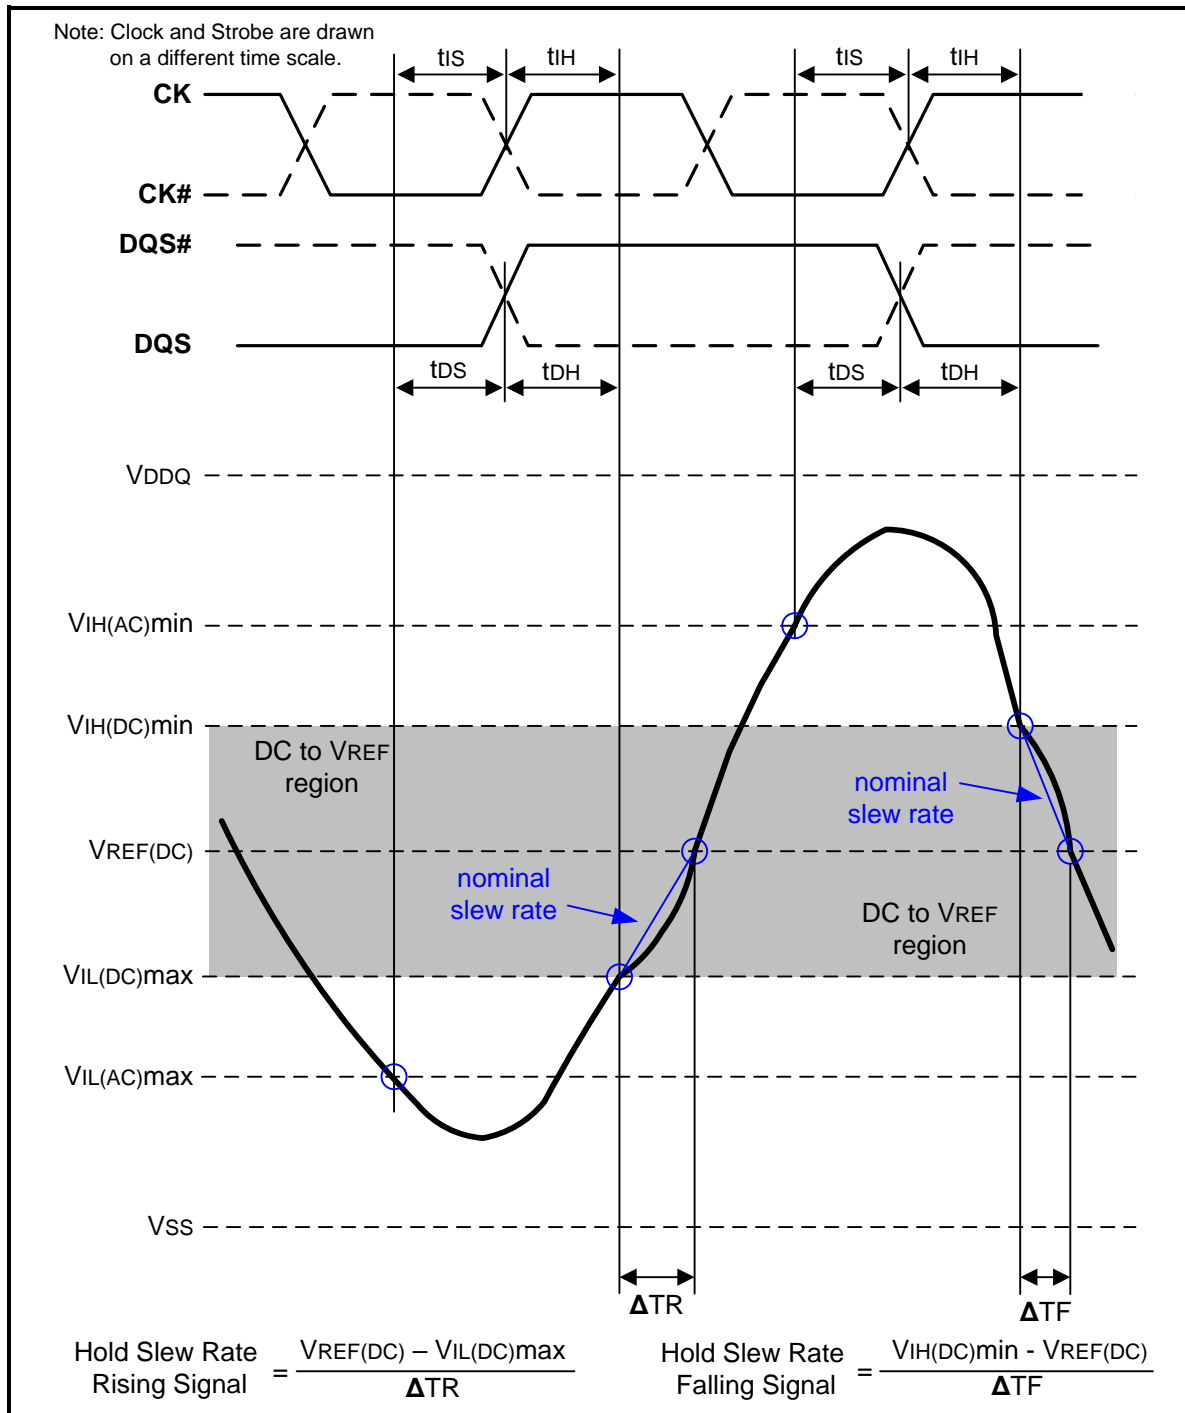
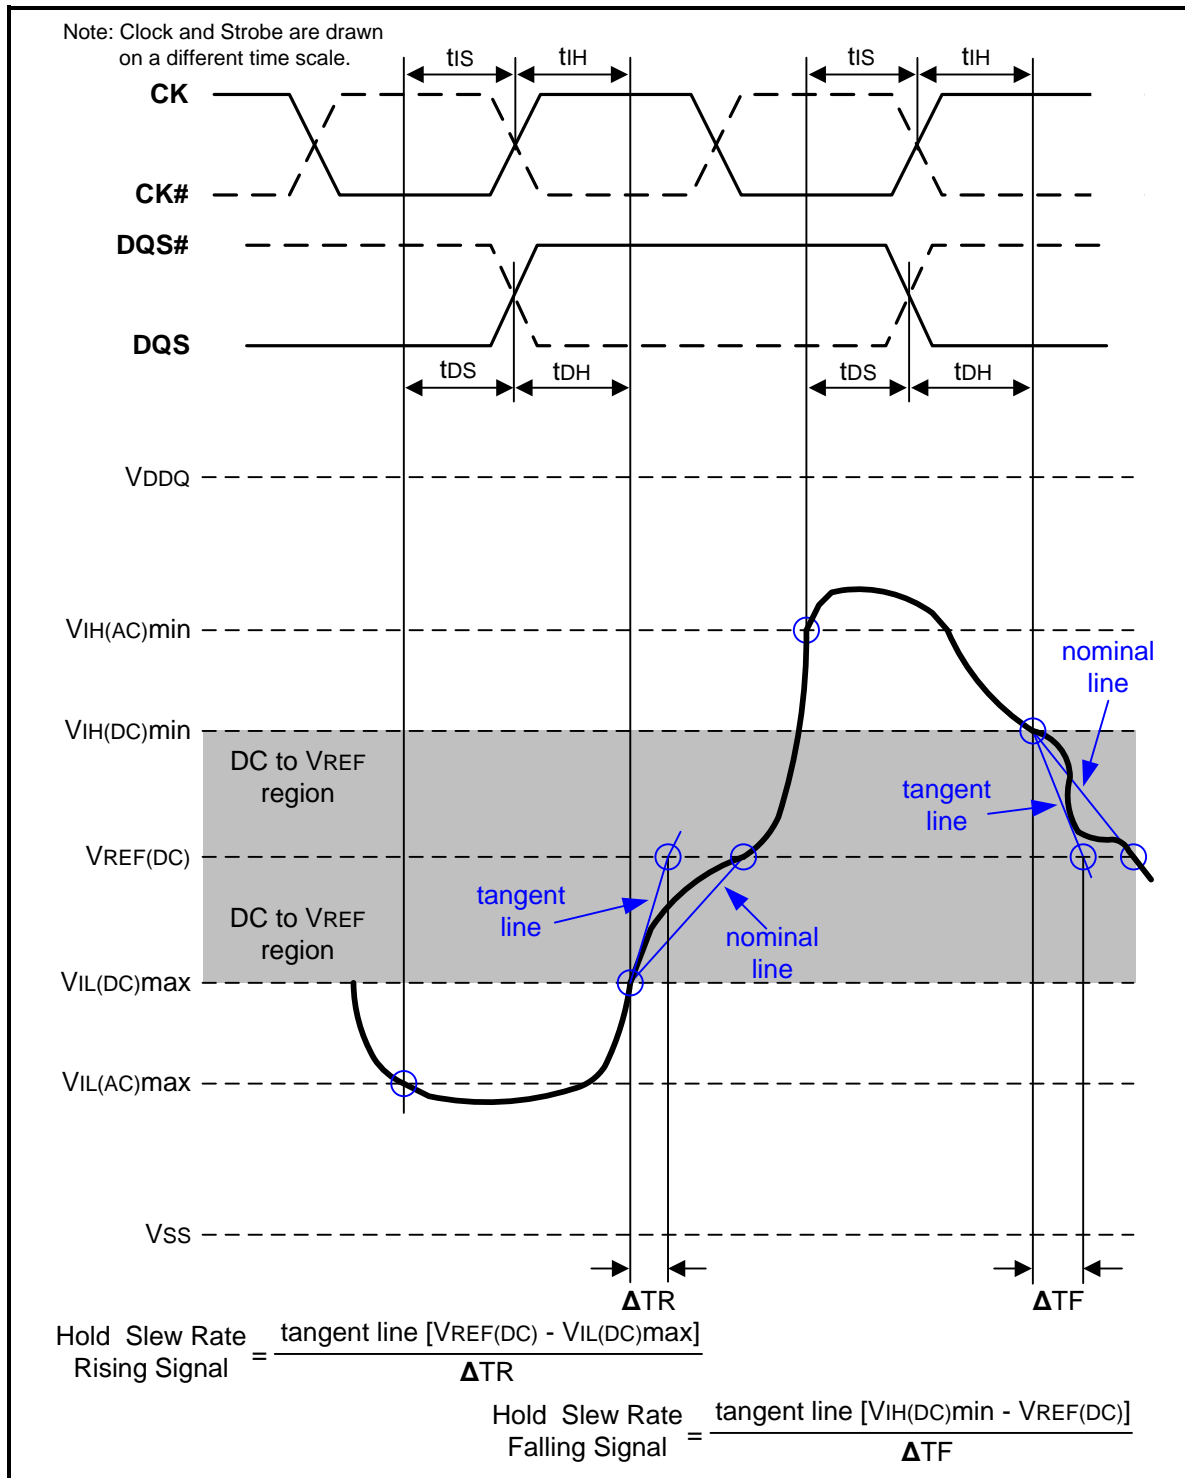

Figure 108 – Illustration of nominal slew rate for hold time t_{DH} (for DQ with respect to strobe) and t_{IH} (for ADD/CMD with respect to clock)
Figure 110 – Illustration of tangent line for hold time t_{DH} (for DQ with respect to strobe) and t_{IH} (for ADD/CMD with respect to clock)
Hold (t_{IH}) nominal slew rate for a rising signal is defined as the slew rate between the last crossing of $V_{IL}(\text{DC})_{\text{max}}$ and the first crossing of $V_{REF}(\text{DC})$. Hold (t_{IH}) nominal slew rate for a falling signal is defined as the slew rate between the last crossing of $V_{IH}(\text{DC})_{\text{min}}$ and the first crossing of $V_{REF}(\text{DC})$. If the actual signal is always later than the nominal slew rate line between shaded ' DC to $V_{REF}(\text{DC})$ region', use nominal slew rate for derating value (see Figure 108). If the actual signal is earlier than the nominal slew rate line anywhere between shaded ' DC to $V_{REF}(\text{DC})$ region', the slew rate of a tangent line to the actual signal from the DC level to $V_{REF}(\text{DC})$ level is used for derating value (see Figure 110).
Hold (tDH) nominal slew rate for a rising signal is defined as the slew rate between the last crossing of VIL(DC)max and the first crossing of VREF(DC). Hold (tDH) nominal slew rate for a falling signal is defined as the slew rate between the last crossing of VIH(DC)min and the first crossing of VREF(DC) (see Figure 108). If the actual signal is always later than the nominal slew rate line between shaded 'DC level to VREF(DC) region', use nominal slew rate for derating value. If the actual signal is earlier than the nominal slew rate line anywhere between shaded 'DC to VREF(DC) region', the slew rate of a tangent line to the actual signal from the DC level to VREF(DC) level is used for derating value (see Figure 110).